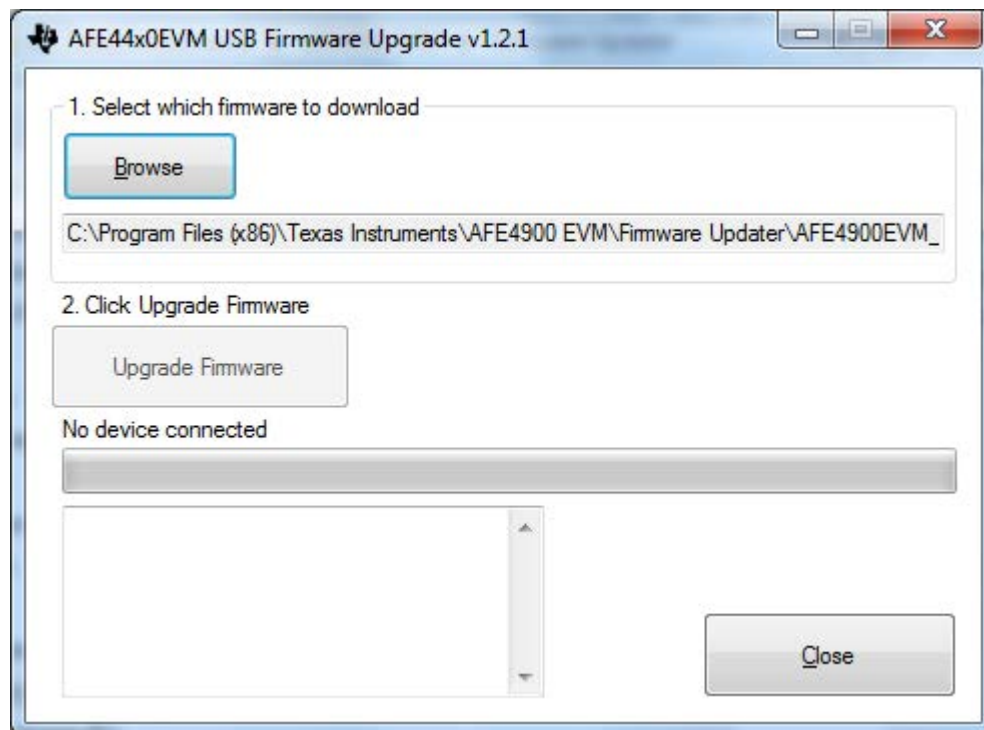

Figure 52. Firmware Loader Application: Select Firmware
- On Windows 7, Windows 8, and Windows 10 operating systems (OS): "C:\Program Files(x86)\Texas Instruments\AFE4900 EVM\Firmware Updater"
2. Click the **Browse** button and load the AFE4900 firmware. Figure 52 shows the firmware loader application with the appropriate firmware selected. The firmware is located in the "Firmware Updater" directory.